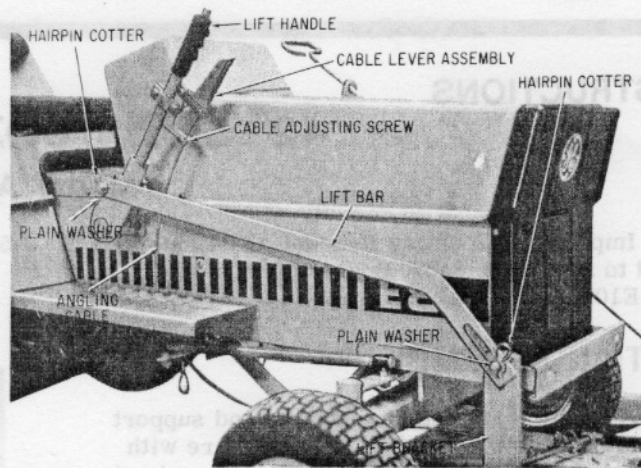

Figure 5
3. Mount the cable lever assembly on the front side of the lift handle so the pivot point of its "squeeze" lever is 1/2-inch below the lift lever handle grip. See Figure 5.
8. Attach the slotted end of the lift bar to the pin on the snow/dozer blade lift bracket. Secure the bar with a washer and hairpin cotter. See Figure 5.
9. Move the tractor lift handle forward so that the end hole in the lift bar aligns with the lift pin at the base of the lift lever. Secure the bar to the pin with a washer and hairpin cotter. See Figure 5.
1/8-inch when the cable lever is fully depressed. If adjustment is necessary, loosen the cable adjusting screw just below the cable lever. This screw clamps the cable sheath in place and when loosened the sheath can be retightened to give the 1/8-inch required clearance. See Figure 5.